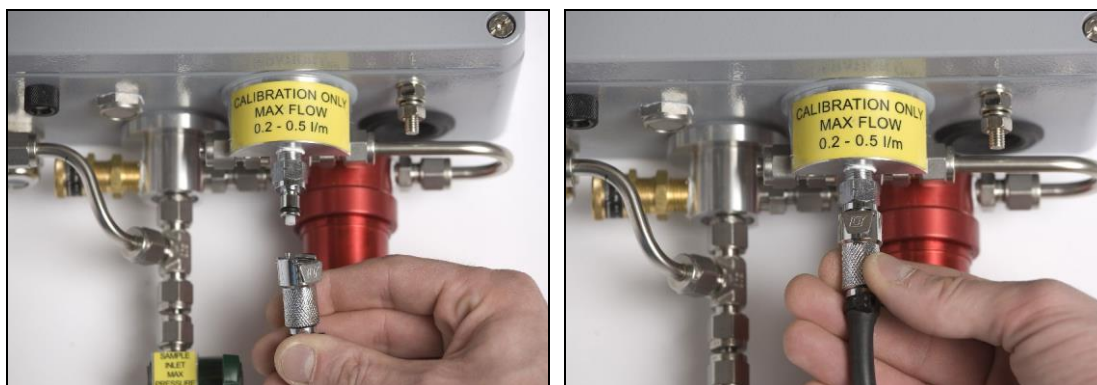

Figure 24 - Connecting calibration fitting to ACG calibration port
- Connect the outlet of the regulator to the calibration gas connector accessory (see **Table 12**) and then connect the calibration gas connector to the calibration inlet on the ACG (Figure 24). Push the fitting on fully until it latches in place.